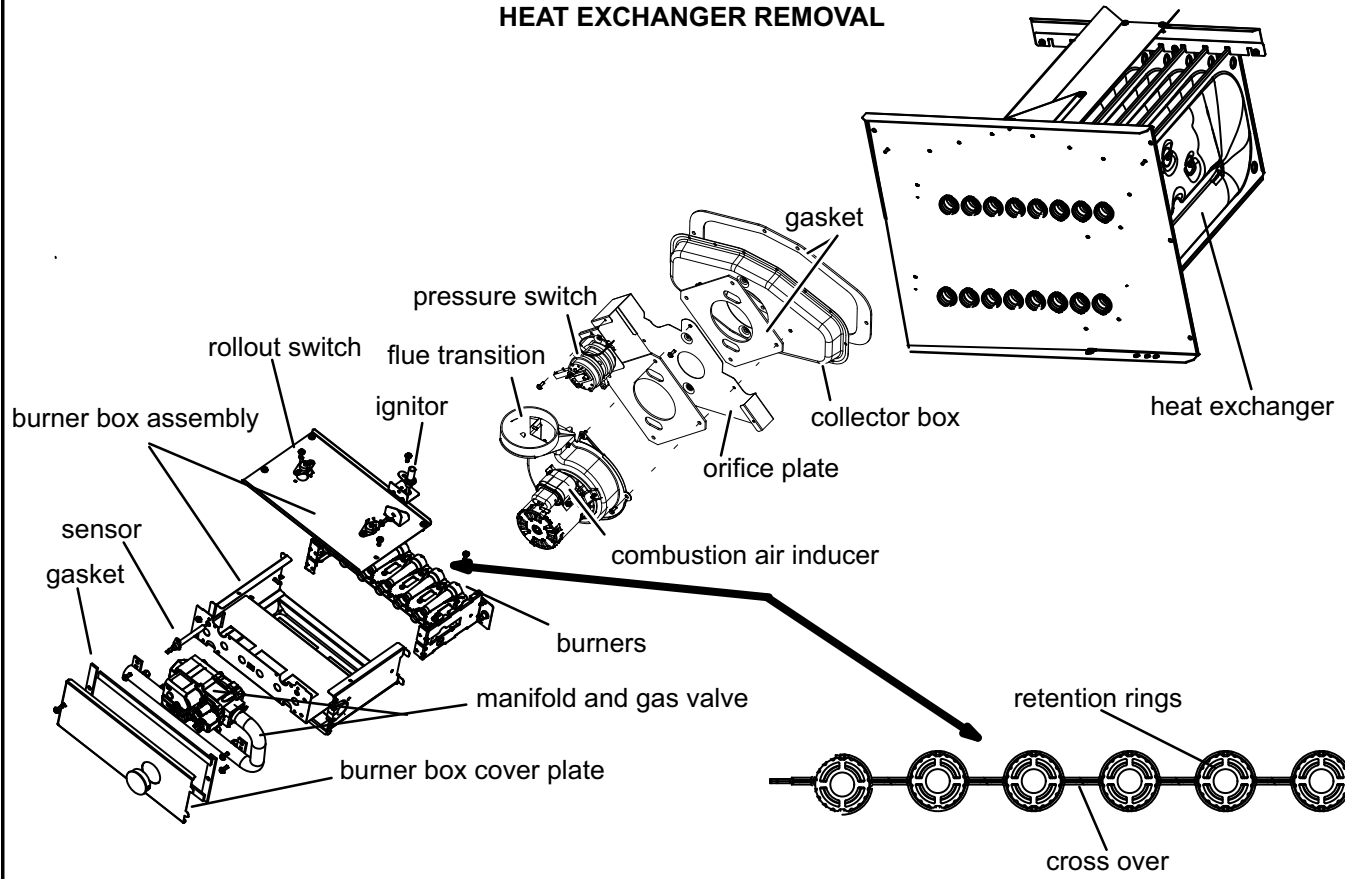

FIGURE 39
- 12- To clean burners, run a vacuum cleaner with a soft brush attachment over the face of burners. Visually inspect inside the burners and crossovers for any blockage caused by foreign matter. Remove any blockage. Figure 39 shows burner detail.